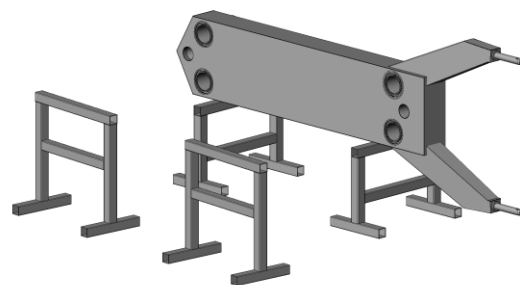

Figure 6-2
2. Position the two 25¾" jack stands as shown in figure 6-2. Depending on the size frame you are installing the actual distance from the fixed end will vary. These stands will support the rails and should be located so they are opposite from the rail holes in the fixed end.